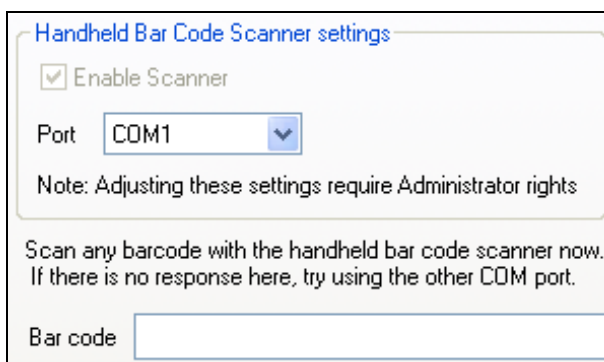

Figure 2-3 Expanded Bar Code tab parameters
3. Select **Enable Scanner**. The tab expands (Figure 2-3).